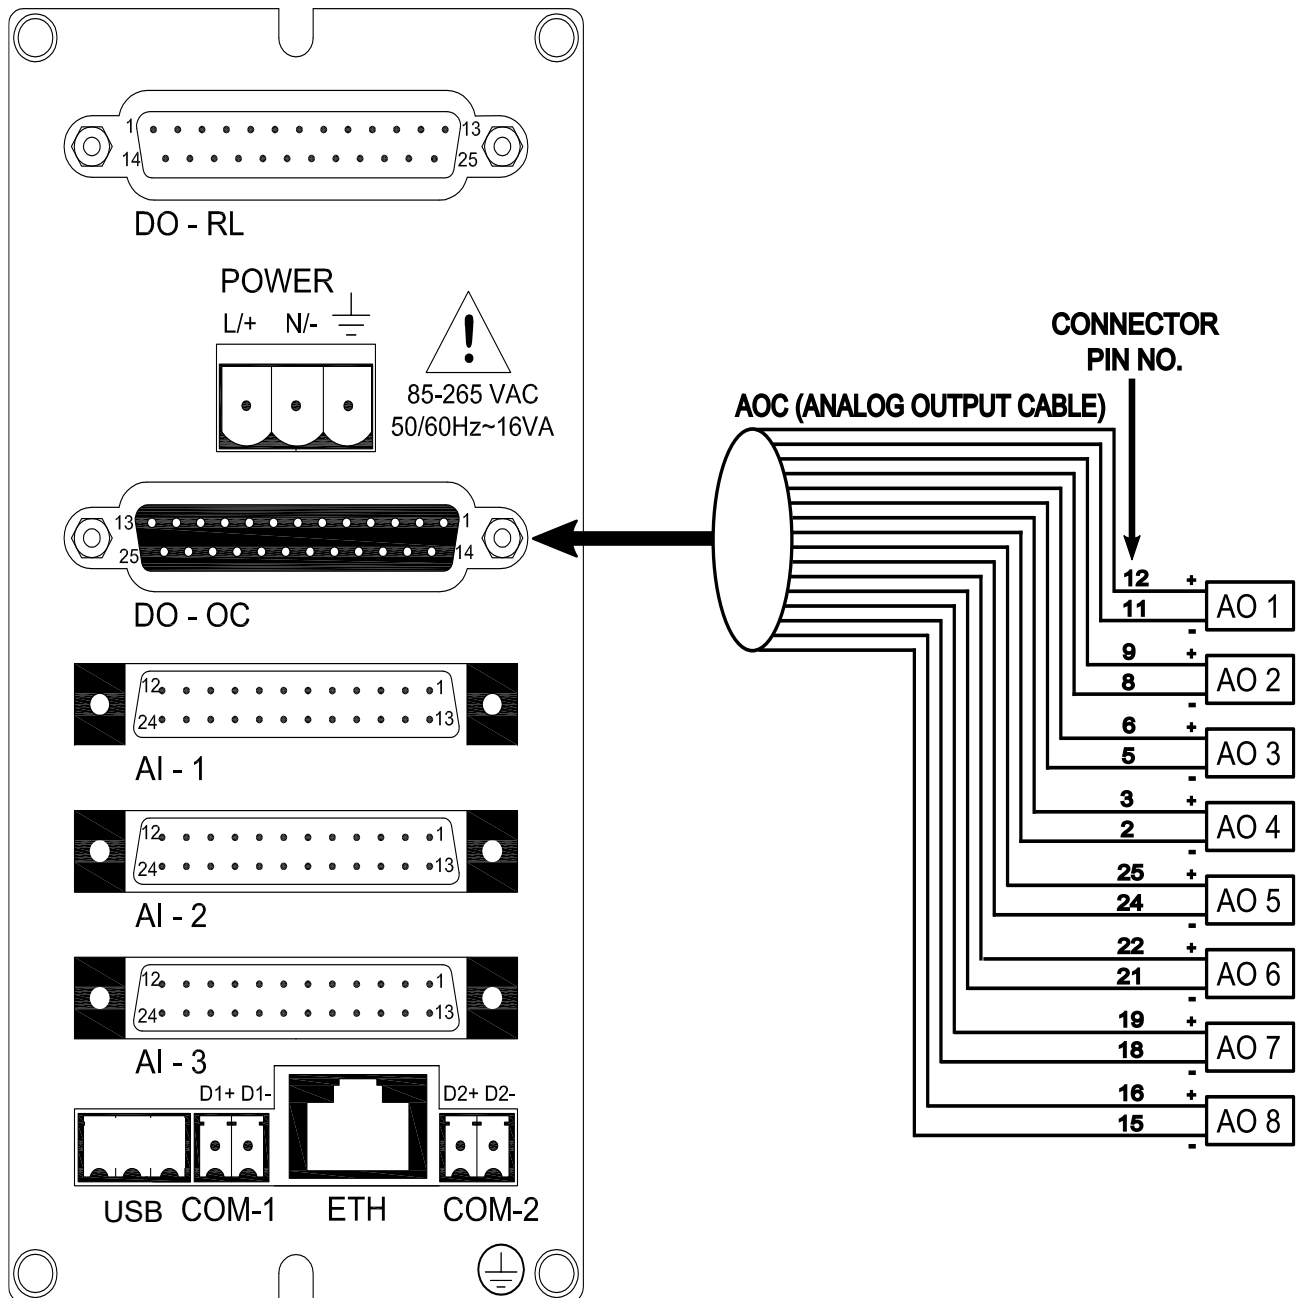

Figure 11 Analog Output Cable Connection
- 1) Connect Digital Output- Relay cable and Open Collector / Analog Output cable , Analog Input cable and Communication cable to 85XX* as shown in Figure 6, Figure , Figure 7 ,Figure 9, Figure 11,